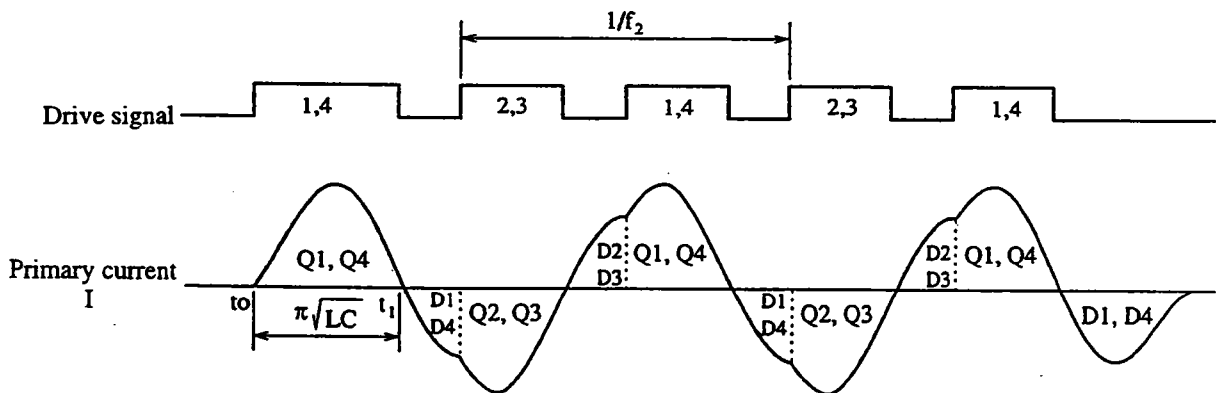

Fig. 3.1.4 Primary current for each load
When an X-ray exposure signal turns on IGBT Q1 and Q4, switching elements of the inverter, a current shown in Fig.3.1.4 ① flows through the resonance capacitor C, the primary winding of the high voltage transformer, and resonance inductance L. The current waveform is sinusoidal and the value is $\pi \sqrt{LC}$ for a period of $t_0 \sim t_1$. During the next period $t_1 \sim t_2$, the energy stored in